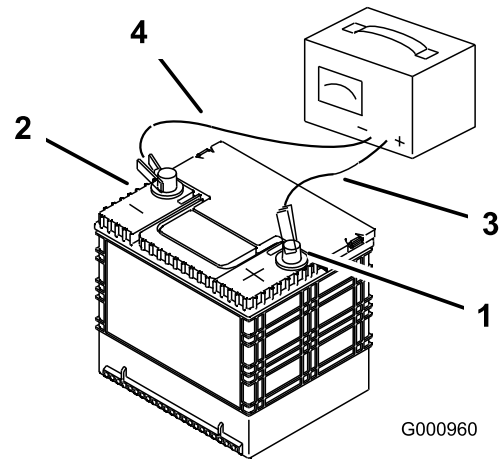

Figure 58
2. When the battery is fully charged, unplug the charger from the electrical outlet; then disconnect the charger leads from the battery posts (Figure 58).